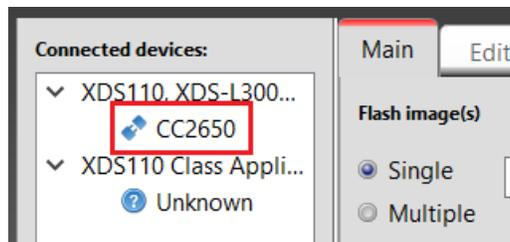

Figure 39, DEV-BLE-TI device connected to the SmartRF Flash Programmer 2
- 5) Connect the Debugger Dev pack to the DEV-BLE-TI PCB. The connected devices list should update to read “CC2650” (Figure 39)